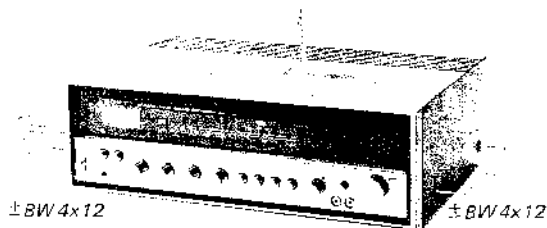

Fig. 2-1. Wooden case removal
1. Remove the two screws at each side of the wooden case as shown in Fig. 2-1.
2. Carefully push the wooden case backward and pull it up as shown in Fig. 2-1.